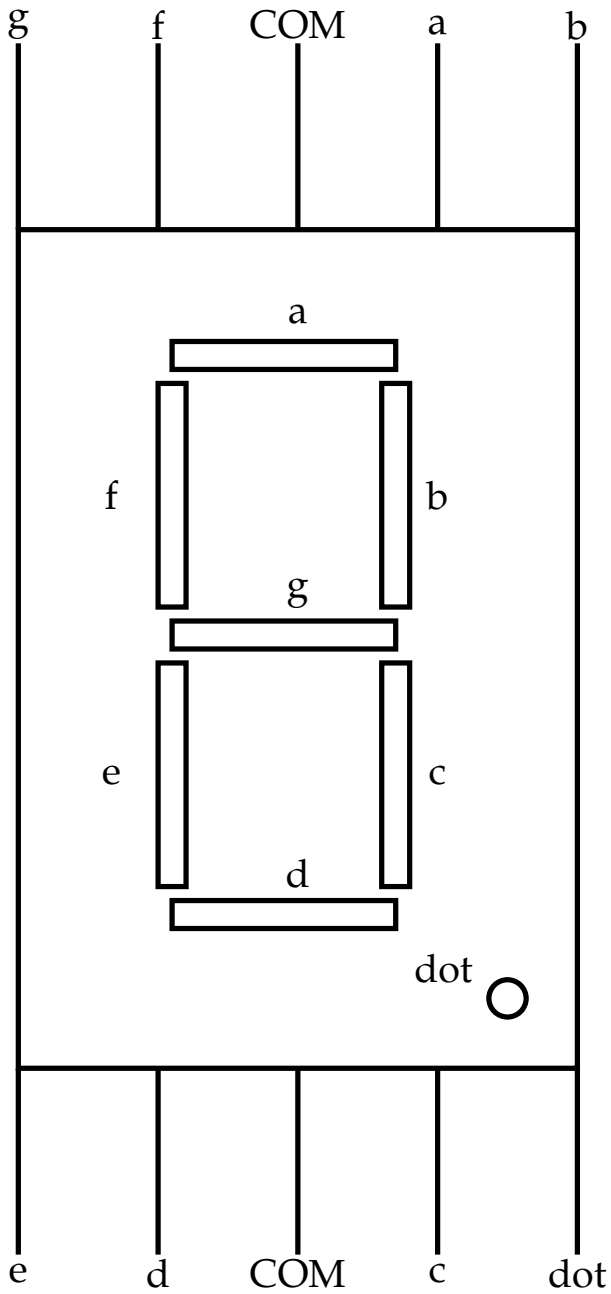

Fig. 2.1.1: Seven segment display
2.1. Fig. 2.1.2 shows the pin diagram for the Vaman. Using the bank J5, connect the pins of the seven segment display in Fig. 2.1.1 to the Vaman according to Table 2.1.1. Make sure that the COM pin is connected to 3.3V through a resistor.